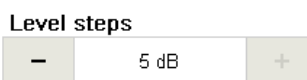

Figure 147
**Level steps:** Select the change in volume with each + or - selection of Hearing Level and Masking Level. Choose between: 1 dB and 5 dB steps (Figure 147).